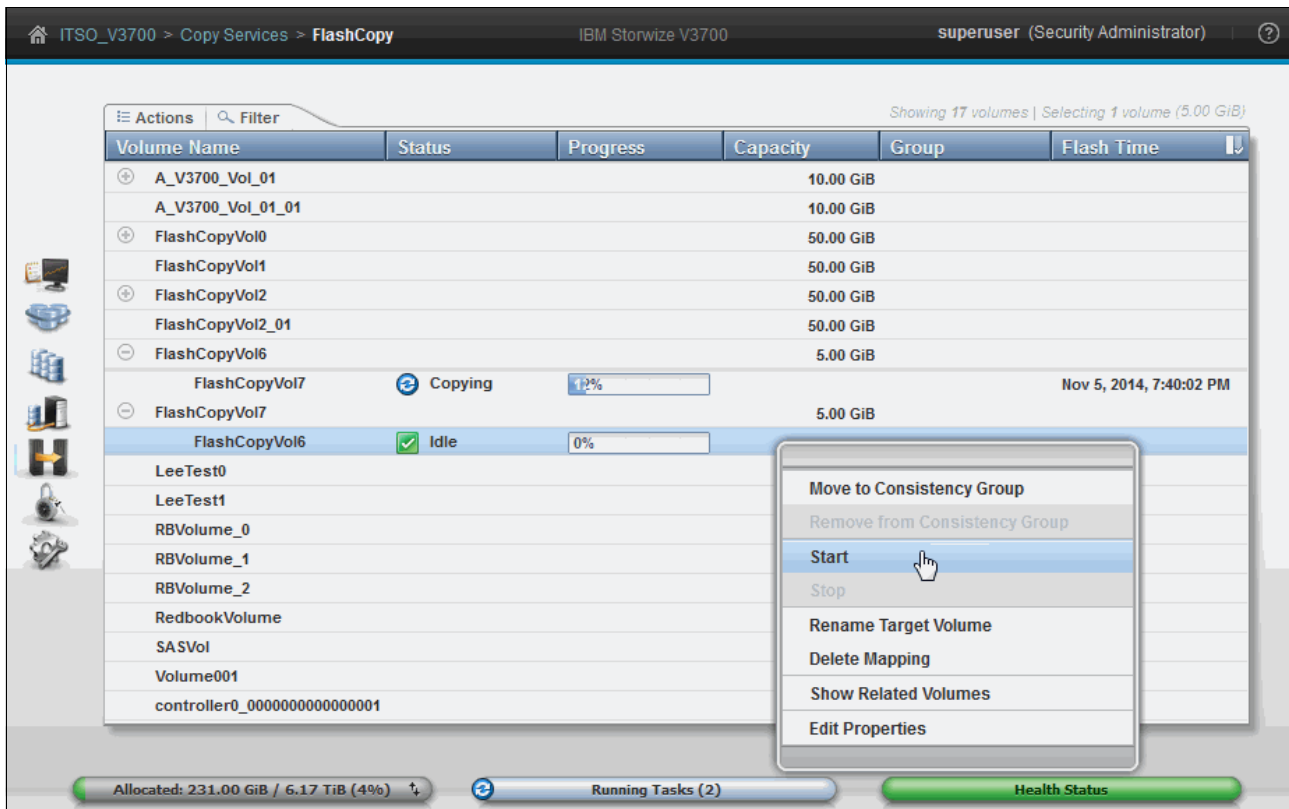

Figure 10-50 Starting the reverse mapping
- To restore the original source volume FlashCopyVol16 with the snapshot you took (FlashCopyVol17), select the new mapping and right-click to open the Actions menu, as shown in Figure 10-50.